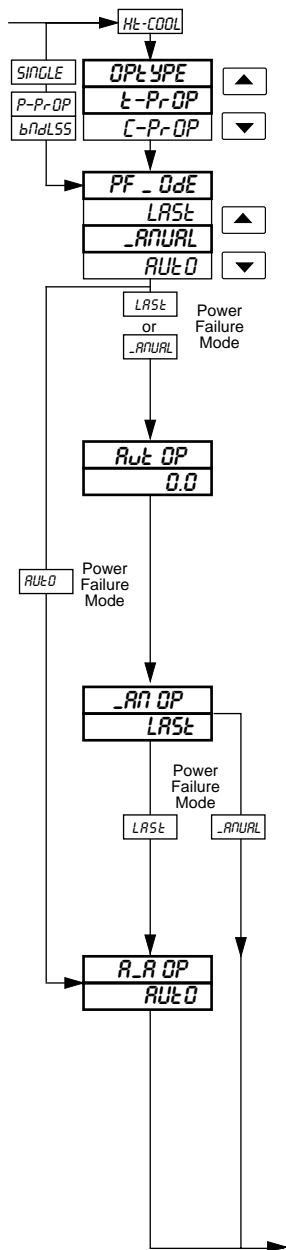

**Fig. 4.4 Standard Control Schematic Diagram**
*C-PROP* – current proportioning – see Fig. 4.4.
*t-PROP* – time proportioning – see Fig. 4.4.